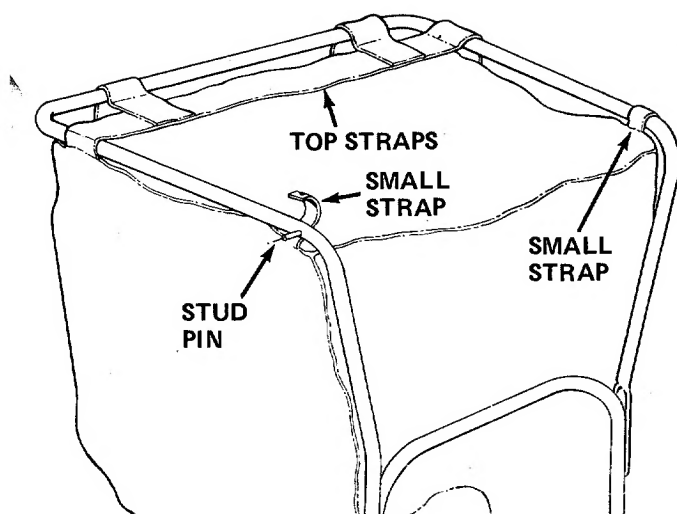

FIGURE 10
12. Assemble the bag (E) by slipping the top straps on the bag over upper handle. Hook the two small straps over the stud pins on handle. See figure 10.